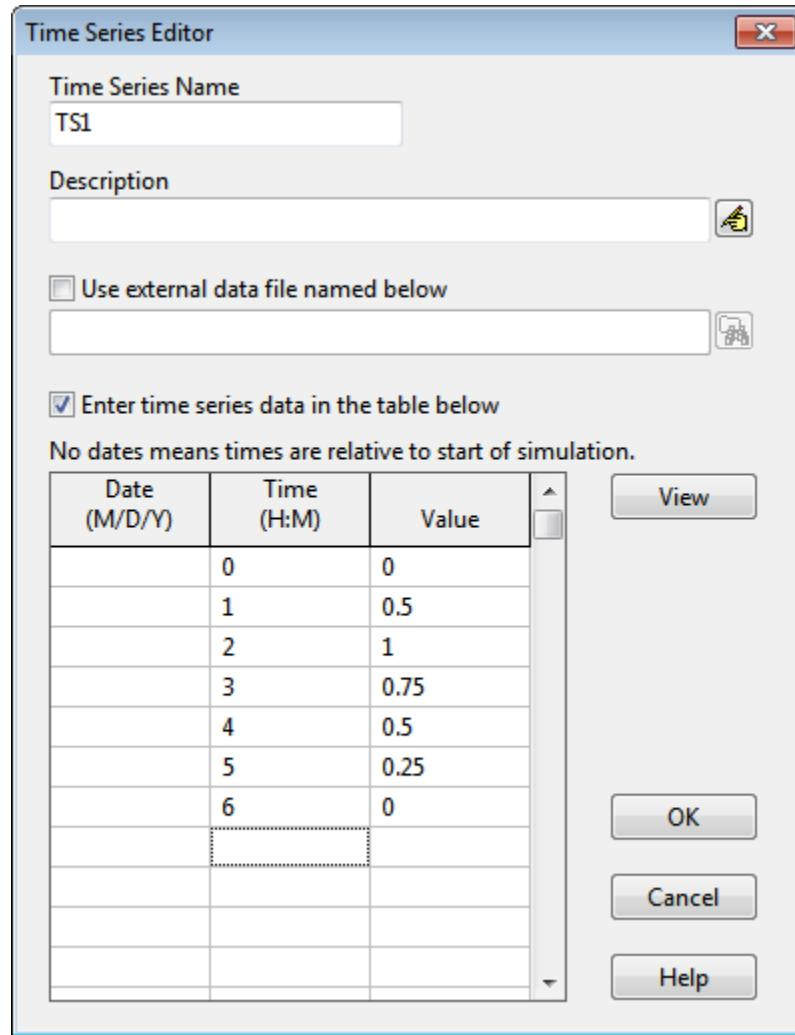

Figure 2-7 Time series editor
2. Click the button on the Browser to bring up the Time Series Editor dialog (see Figure 2-7)⁷.
4. Enter the values shown in Figure 2-7 into the *Time* and *Value* columns of the data entry grid (leave the *Date* column blank⁸).